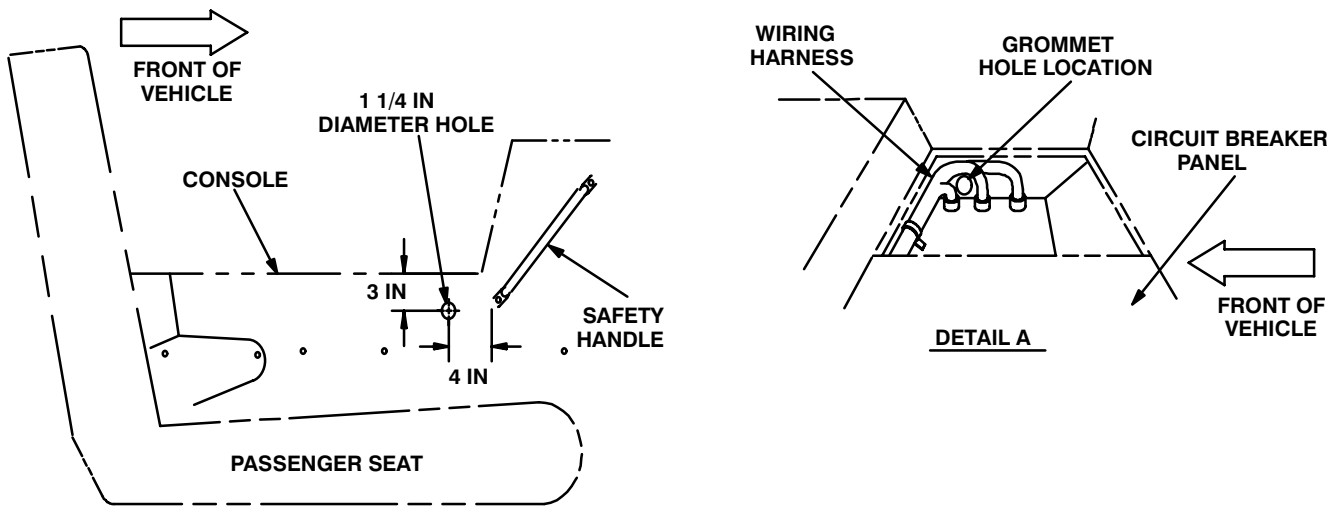

Figure 5-5 (1). Cable Installation: Drilling Grommet Hole
| a. Circuit breaker panel and mounting hardware. | Temporarily remove from top of console. See figure 5-5 (1), detail A. | |
Be sure to protect existing wiring harness (figure 5-5 (1), detail A) when drilling through side of console.